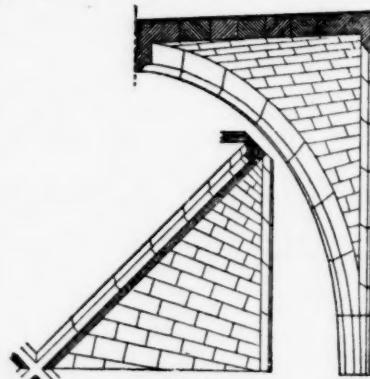

Fig. 69.
c. Groin and wall ribs. (Fig. 69. From Bayham Abbey.) The groin-ribs are semicircular, the wall-ribs pointed. The ridge descends slightly to the centre.